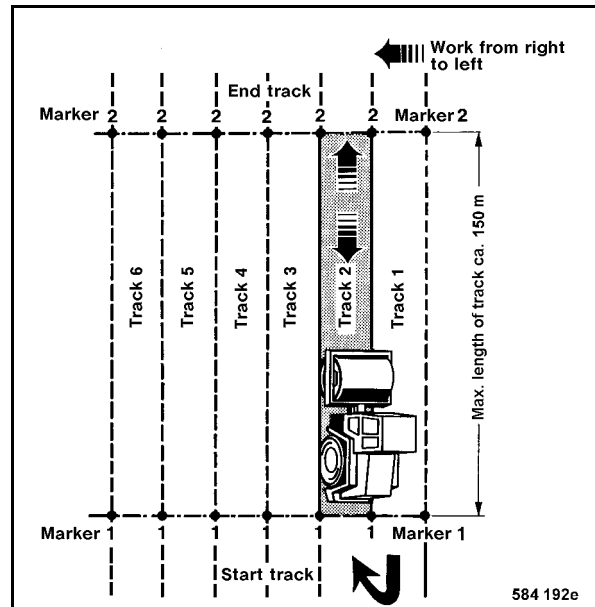

Fig. 99
- Repeat the complete compaction process on the next track (Fig. 99) to record measuring values.